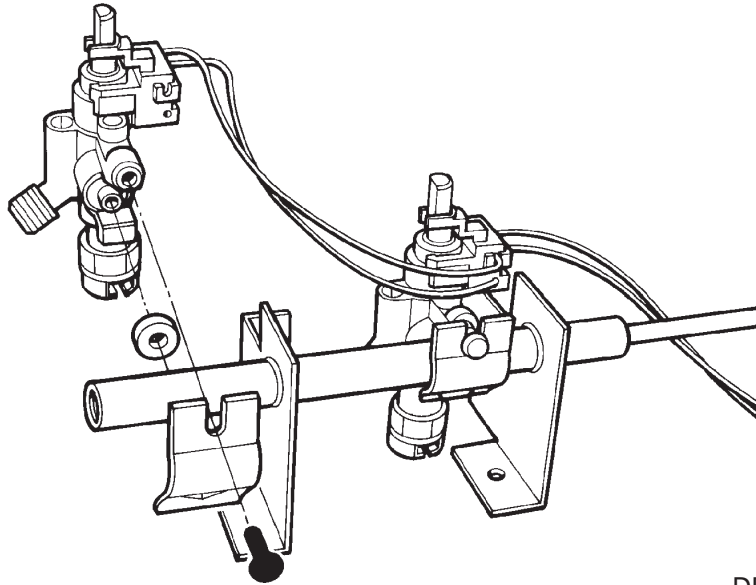

Fig. 7
9. Remove the bolt and clamp fixing to gas rail and withdraw tap from gas rail. (See Fig. 7)